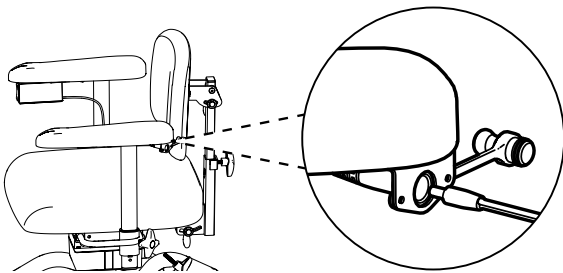

Figure 2.5. Connecting the plug to the charging socket under the armrest.
1. Connect the charger plug into the charging socket, see Figure 2.5. The charging socket is normally located at the rear edge of the left armrest, but can also be located under the seat, for example.